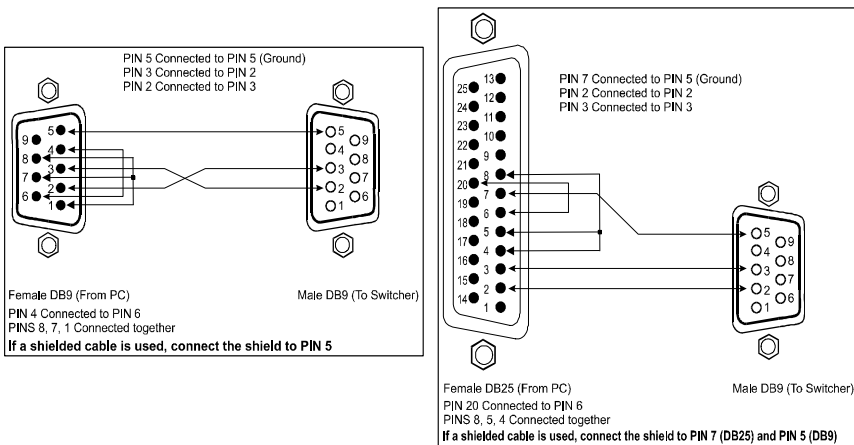

Figure 4: Connecting a PC without using a Null-modem Adapter
- Connect the RS-232 DB9 port on your PC to the RS-232 DB9 rear panel port on the **VP-128H** unit, as Figure 4 illustrates (depending on whether the PC has a 9-pin or 25-pin connector)